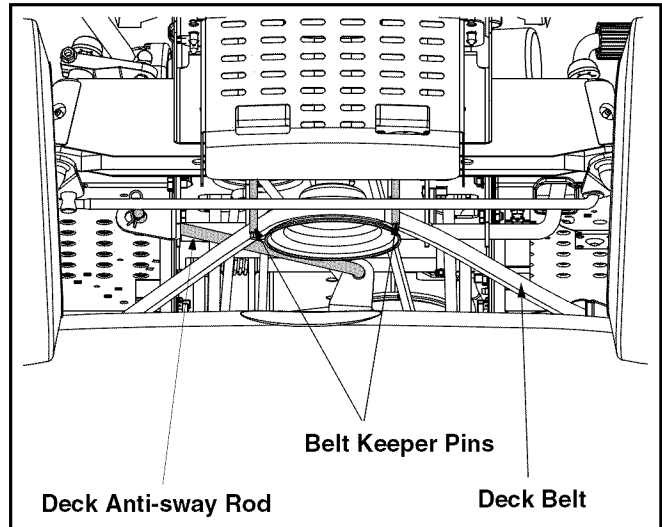
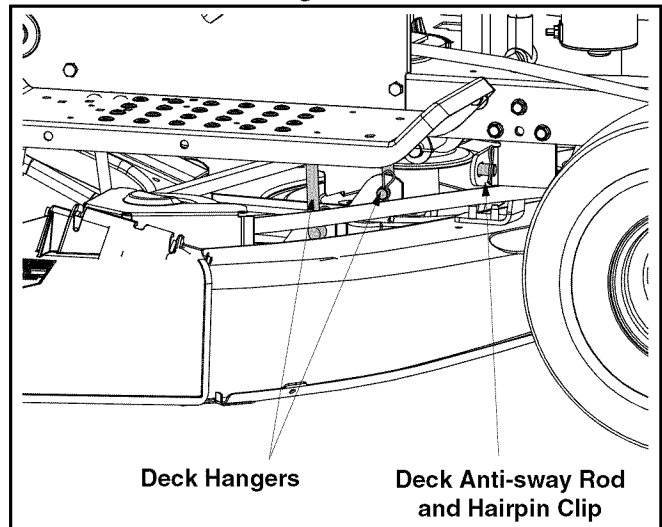

Figure 25
Figure 26
- Locate the two belt keeper pins, found on either side of the engine pulley, and use a 1/4-inch socket wrench to remove them from the lower frame. See Figure 25.
- Locate the deck anti-sway rod and deck hangers found near the front of the cutting deck. See Figure 25 & Figure 26.